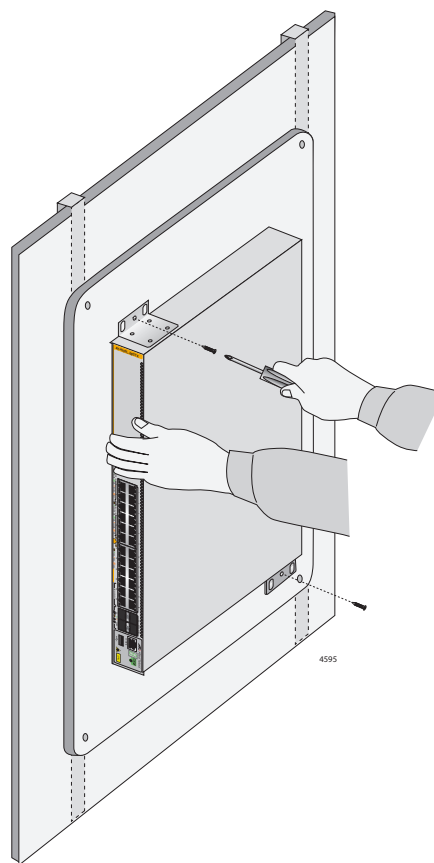
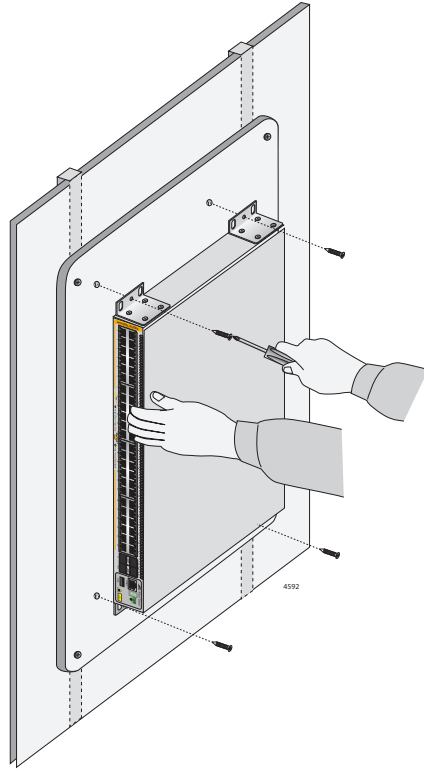

Figure 56. Securing the x530L-28GTX or x530L-52GTX Switch to the Plywood Base
Figure 57. Securing the x530L-10GHXm, x530L-28GPX or x530L-52GPX Switch to the Plywood Base
3. After attaching the brackets, have another person hold the switch on the plywood base on the wall while you secure it with the M4x32.3mm screws included with the switch. Refer to Figure 56 on page 96 for the x530L-28GTX or x530L-52GTX switch or Figure 57 on page 97 for the x530L-10GHXm, x530L-28GPX or x530L-52GPX switch.
- ☐ Position it so that the front panel is facing up, left or right. Refer to Figure 57. Do not install it with the front panel facing down.
- ❑ Position it so that the front panel is facing up, left or right. Refer to Figure 57 on page 97. Do not install the switch with the front panel facing down.